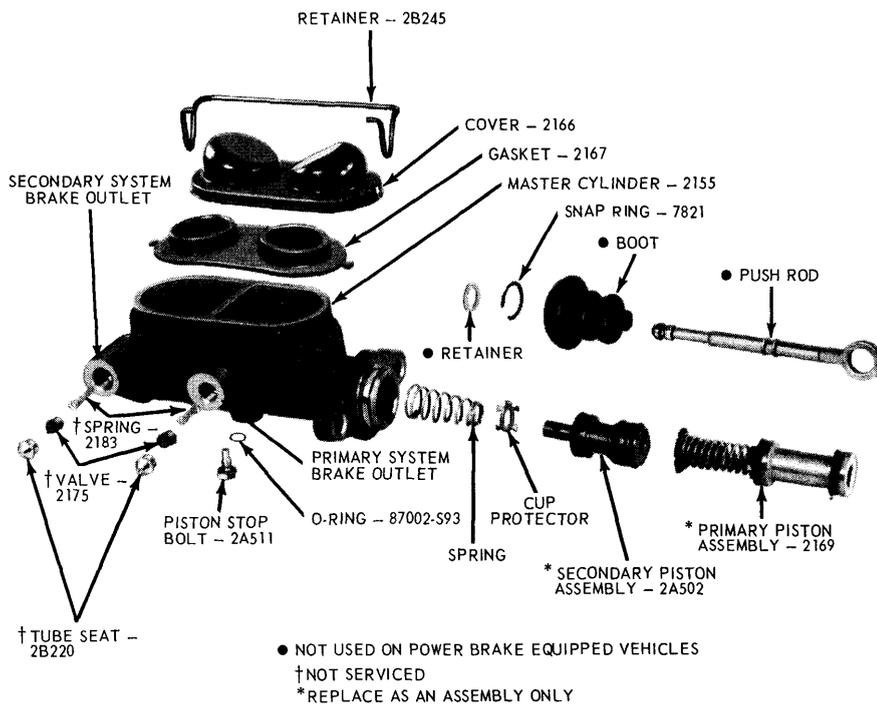

FIG. 27—Dual Master Cylinder Disassembled—Except Disc Brakes
2. Remove the secondary piston stop bolt from the bottom of the cylinder (Figs. 27 and 28).
2. Install the seal and pumping cup on the secondary piston (Figs. 27 and 28). Install the protector and brake master cylinder primary cup on the secondary piston, then install the primary cup retainer and secondary piston return spring on the secondary piston. **Care must be taken to assure the protector is installed.**
9. Install the bleed screw (if so equipped). Install the gasket (diaphragm) in the master cylinder filler cover. Position the gasket as shown in Figs. 27 and 28. **Make sure the gasket is securely seated.**